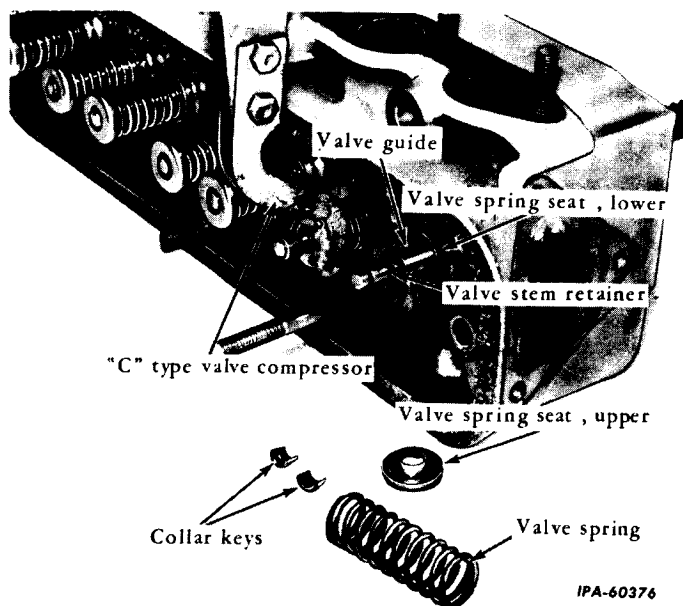

Fig. 18 - Removing Valves with a Compressor.
1. Remove the snap ring (16), valve levers (5, 6, 8, and 10), lever brackets (9) and valve lever spring (7) from the valve lever shaft (12). The snap ring (16) can be removed if necessary.
2. Remove the spark plugs and gaskets. Using a valve compressor, compress the valve springs (22) sufficiently to permit removal of the valve spring seat keys (18). Remove the valve lifter. Lift off the valve spring seats (19) and the valve springs (22) (Fig. 18).